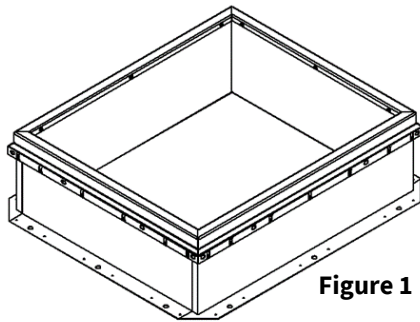

Figure 1
1. Remove cover, gas springs, hold open arm, latch catch, hinges and all hardware from existing roof hatch and leaving only the installed curb. **(Figure 1)**